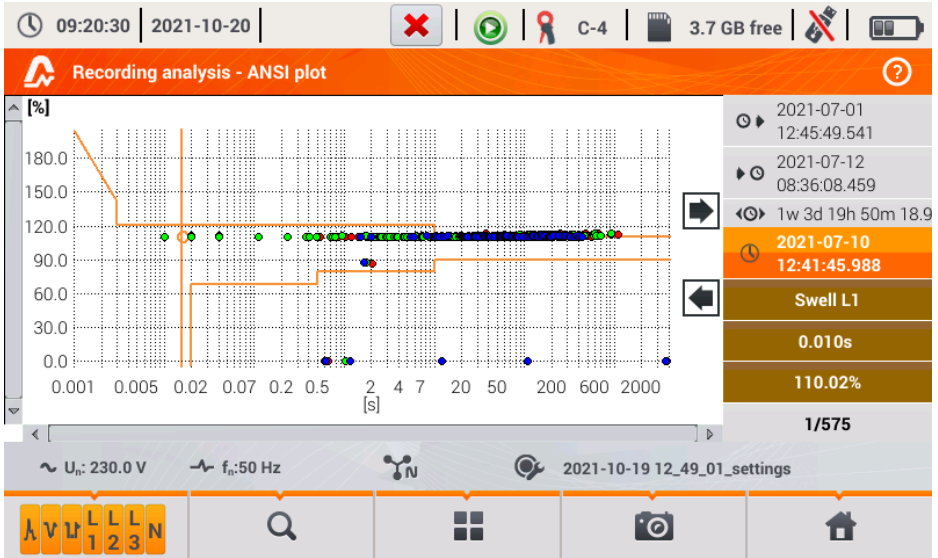

Fig. 31. Recording analysis – ANSI graph.
- ANSI chart. It shows the graph of voltage events according to ANSI criteria. Dots represent individual events and their location indicates the duration (horizontal axis) and peak (*extremum* in the event table) related to the nominal voltage on the vertical axis. Arrow icons on the right side of the graph may be used to select individual events. By touching the screen in the graph area, the user may move the marker to the indicated place. Information about the specified event (type, duration, extreme value) are shown on the right side of the screen. An example of screen with similar diagram is shown in Fig. 31. More information about ANSI charts are presented in section 5.7.